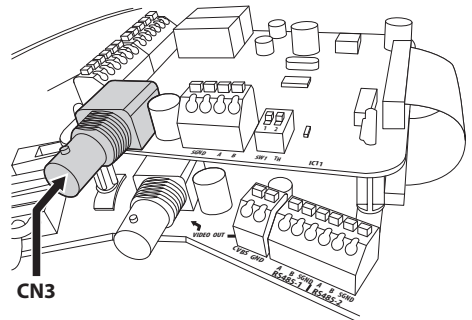

Fig. 14
- **Secondary Video:** The second video output (connector CN3, Fig. 14, page 15) allows the selection of the video signal of the thermal camera or of the integrated module ("10.11 Switching of the secondary video output", page 45). The default video signal is that of the thermal camera.
- **Secondary Video:** The secondary video signal (connector CN3, Fig. 14, page 15) is not used.